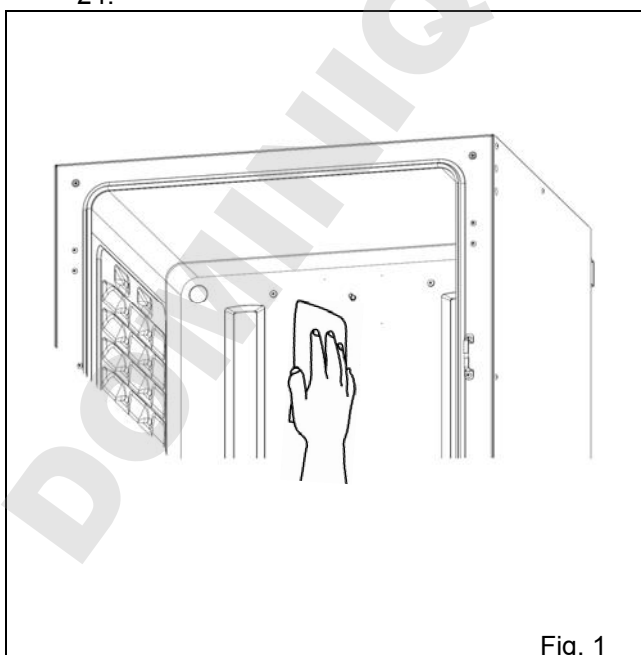

Fig. 1
2. Clean the removed inner attachments, the chamber inside walls and the inner door gaskets with a cloth or sponge soaked in neutral detergent, diluted by 5 % or less. (Undiluted detergent can damage the plastic components. For the dilution, refer to the instruction of the detergent.) (Fig. 1)